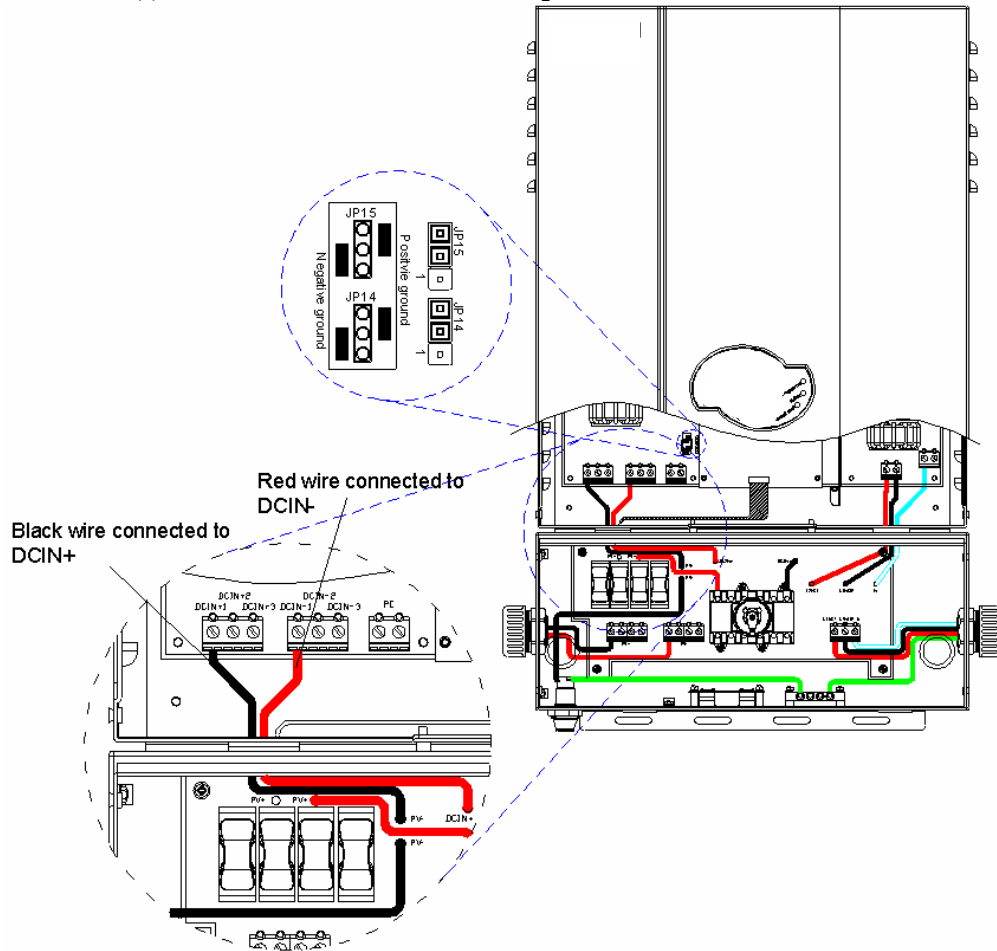

Fig D4 Positive Ground Setting and Vdc wires connections
- 2.) As shown in the figure D4, below, the JP14 and JP15 jumpers need to be placed at the higher positions to set to positive grounding.